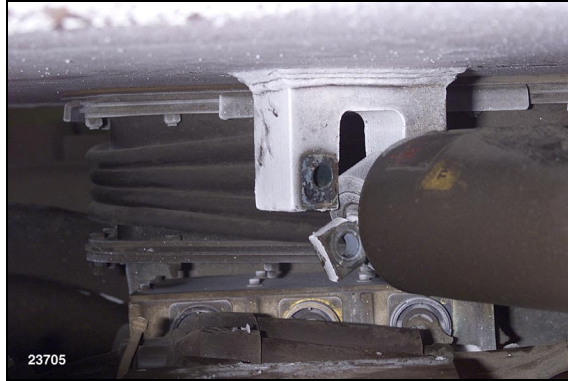

Figure 26 – Removal of Typical Carbody Yaw Dampers
7. Disconnect yaw dampers from carbody, Figure 26, and secure to bogie. Note that the carbody bolts are 5/8-11 x 3-3/4", while the truck end bolts are 5/8-11 x 2-3/4". Note also that the bolts are fitted with special washers, 1-5/16" OD x 21/32" ID x .105". Retain all washers. Inspect hardware for damage, discard and replace all locknuts, 5/8"-11.